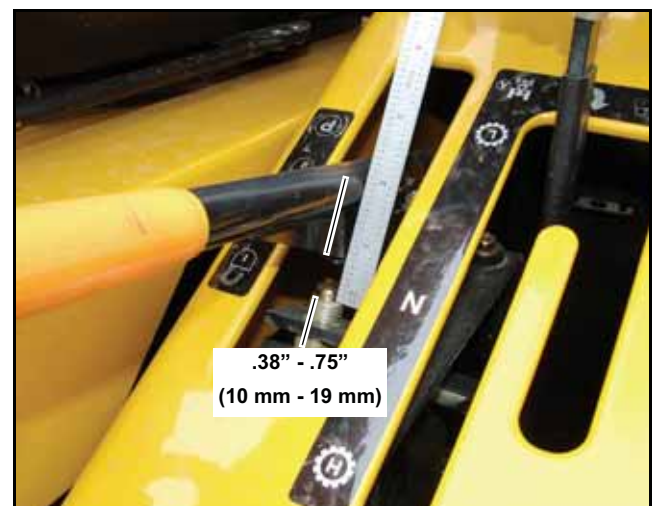

Figure 4-31
in. (10mm) or more than 0.75 in. (19mm) of free play in the park brake lever (Figure 4-31), the park brake is dragging, or the park brake is not working effectively.
2. Check the park brake lever free travel distance: With the park brake lever all the way down (Off), pull the lever up until you notice resistance from brake engagement - measure this distance as shown in Figure 4-31. This free play distance should be 0.38 in. (10mm) to 0.75 in. (19mm).